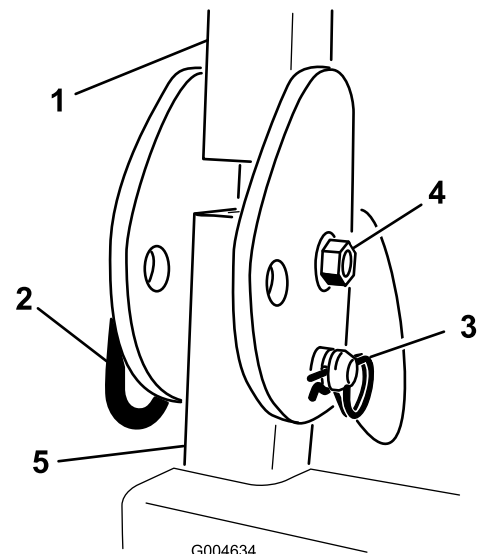

Figure 3
1. Remove the hairpin cotter pins and remove the two pins from the roll bar (Figure 3).
2. Raise the roll bar to the upright position and install the two pins and secure them with the hairpin cotter pins (Figure 3).